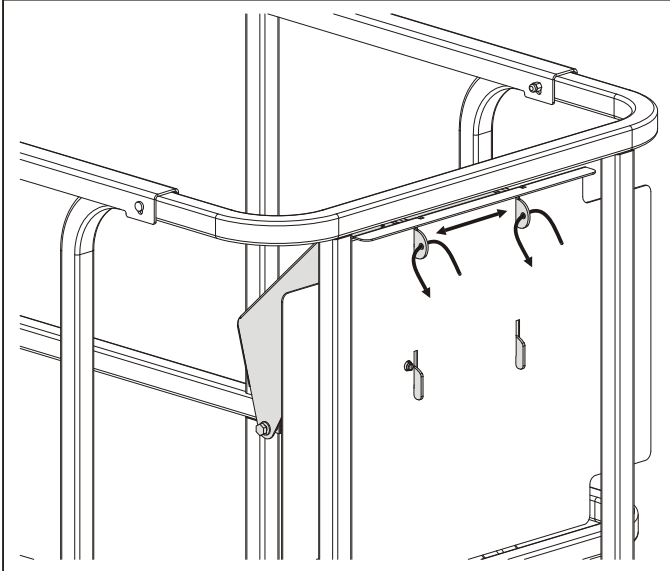

Figure 4-2. Securing Control Station to Platform
6. Turn the power selector switch to "Off" and remove the key to disable the machine and prevent unauthorized use. The platform control station can also be secured to it's mounting plate, see Figure 4-2.